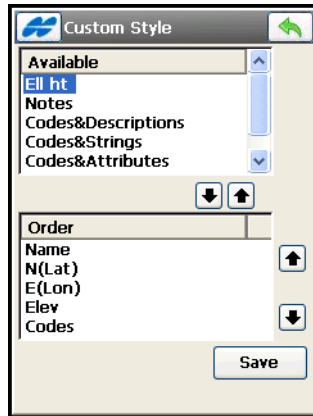

Figure 5-22. Custom Style
- **Edit (Format)** – changes the selected file style with the help of the **Custom Style** screen (see Figure 5-22 on page 5-20).
**On the Custom Style** screen (Figure 5-22), change the file style according to data fields in the file imported. Use the arrows to move the parameters you want from the top (*Available* panel) to the bottom (*Order* panel) of the screen. Use the arrows (up and down) to move the parameters in ascending or descending order in the *Order* panel.